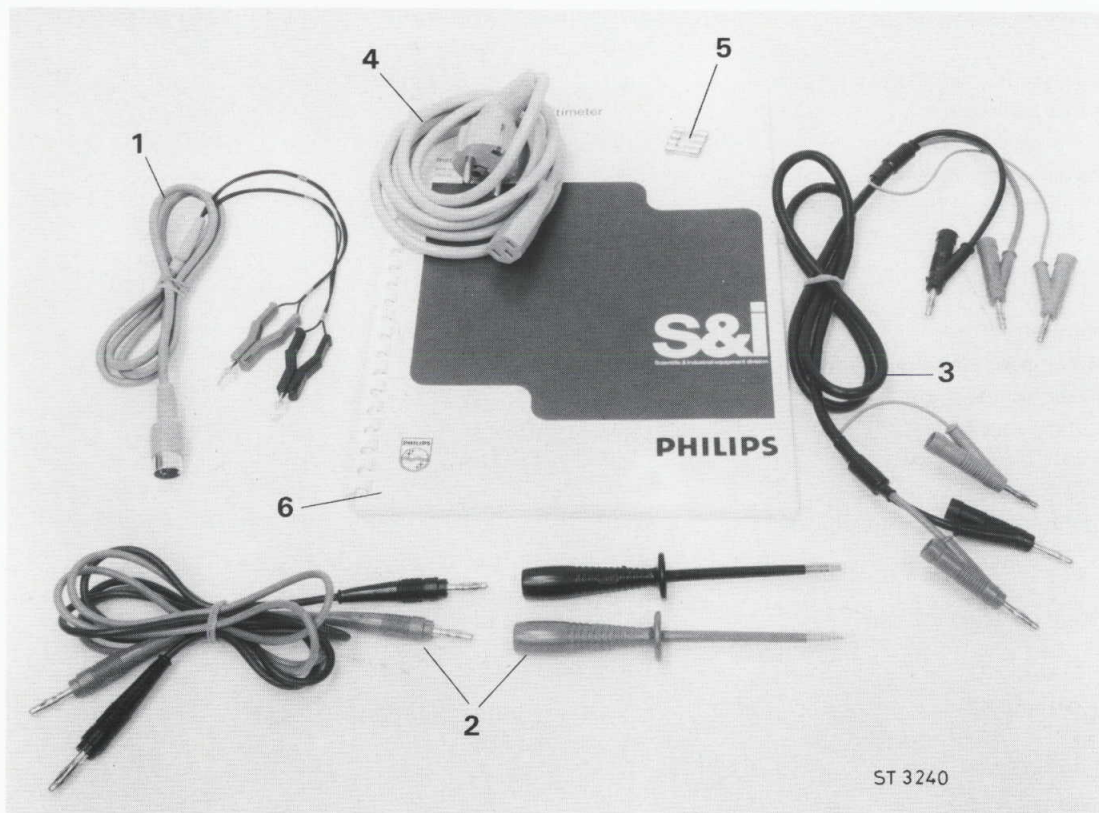

Fig. 1. Accessories supplied with the PM2528.
3.1. ACCESSORIES SUPPLIED WITH THE PM2528 (Fig. 1.)